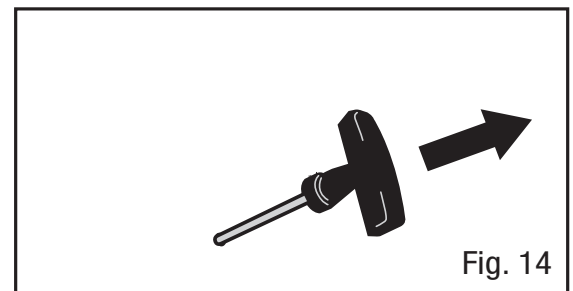

Fig. 14
3. Place one hand on the generator to hold it in place, and pull on the recoil starter handle slowly until a slight resistance is felt , Then pull quickly to start the engine. Return cord gently into the machine. Never allow the cord to snap back.(Fig. 14)